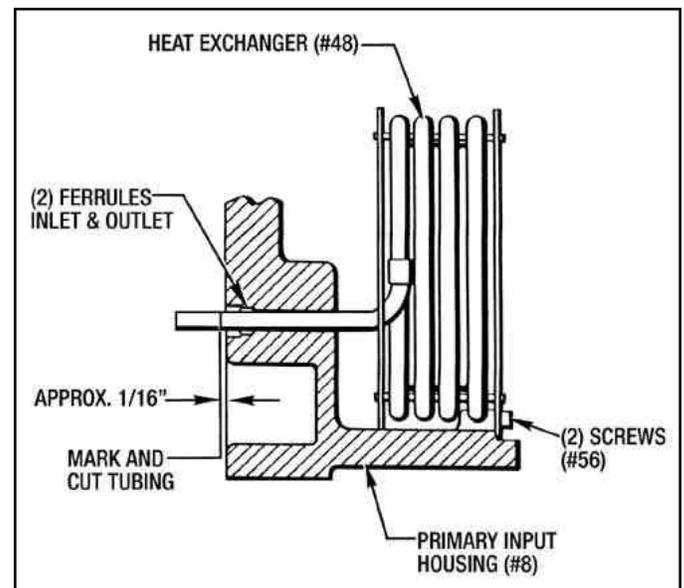

Figure 9.16 - Installing Water Cooled Heat Exchanger
2. Mark the tubing approximately 1/16" beyond the face of the housing. (See Figure 9.16)